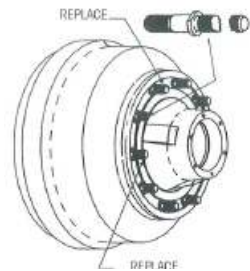

Fig 8
- When a broken stud is replaced, the stud on each side of it should also be replaced. If more than 2 studs are broken, replace all studs (Fig. 8)